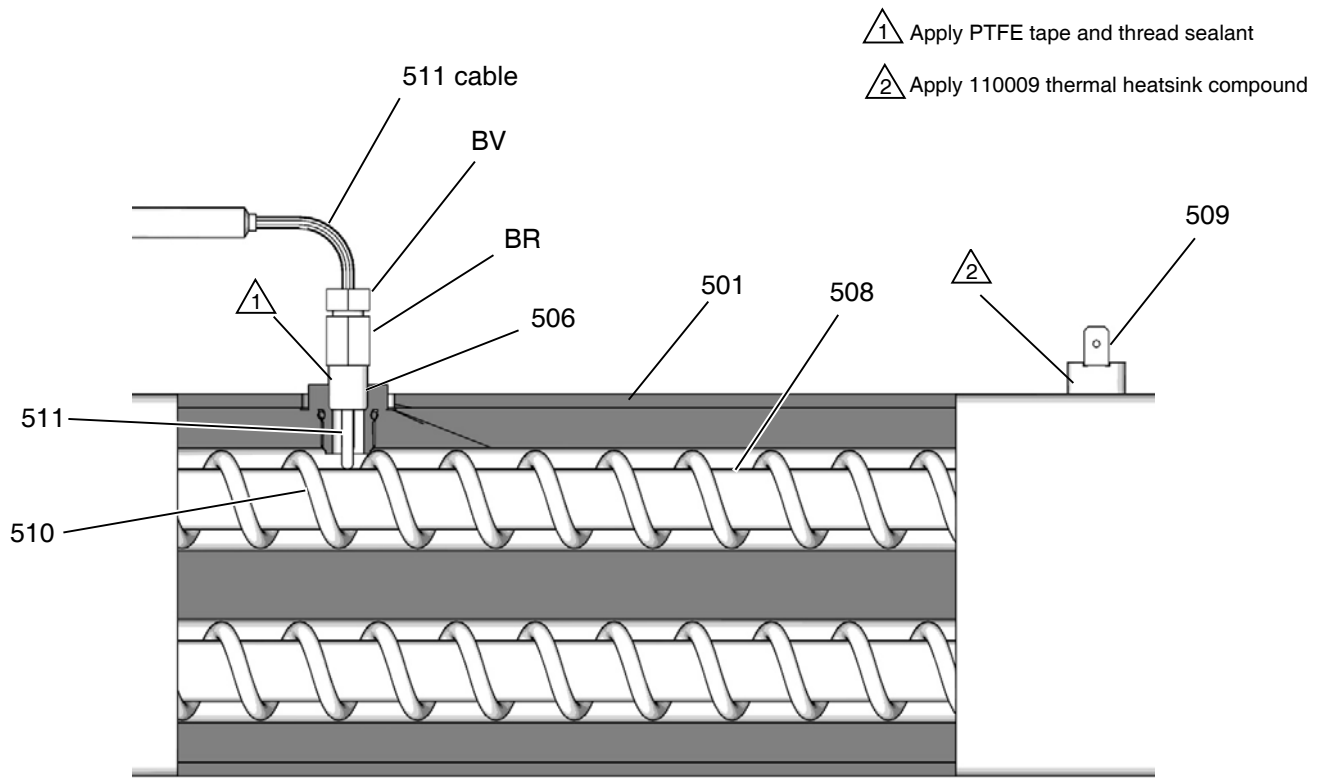

FIG. 69: Thermocouple
6. Feed thermocouple wires out of electrical enclosure (C). Note path as wires must be replaced in the same way.
7. See FIG. 69, page 69. Loosen ferrule nut (BV). Remove thermocouple (511) from heater housing (501), then remove thermocouple housing (BR). Do not remove the thermocouple adapter (506) unless it is also necessary to remove the mixer (510). If adapter must be removed, ensure that mixer (510) is out of the way when replacing the adapter.
8. Replace thermocouple. See FIG. 69.
- a. Remove protective tape from thermocouple (511) tip.
- b. Apply PTFE tape and thread sealant to male threads and tighten thermocouple housing (BR) into adapter (506).
- c. Push in thermocouple (511) so tip contacts heater element (508).
- d. Holding thermocouple (511) against heater element, tighten ferrule nut (BV) 1/4 turn past finger-tight.
9. Route thermocouple wires into electrical enclosure (C) and thread into bundle as before. Reconnect wires to board.
11. Turn on heaters A and B simultaneously to test. Temperatures should rise at the same rate. If one heater is low, loosen ferrule nut (BV) and tighten thermocouple housing (BR) to ensure the thermocouple (511) tip contacts element (508).